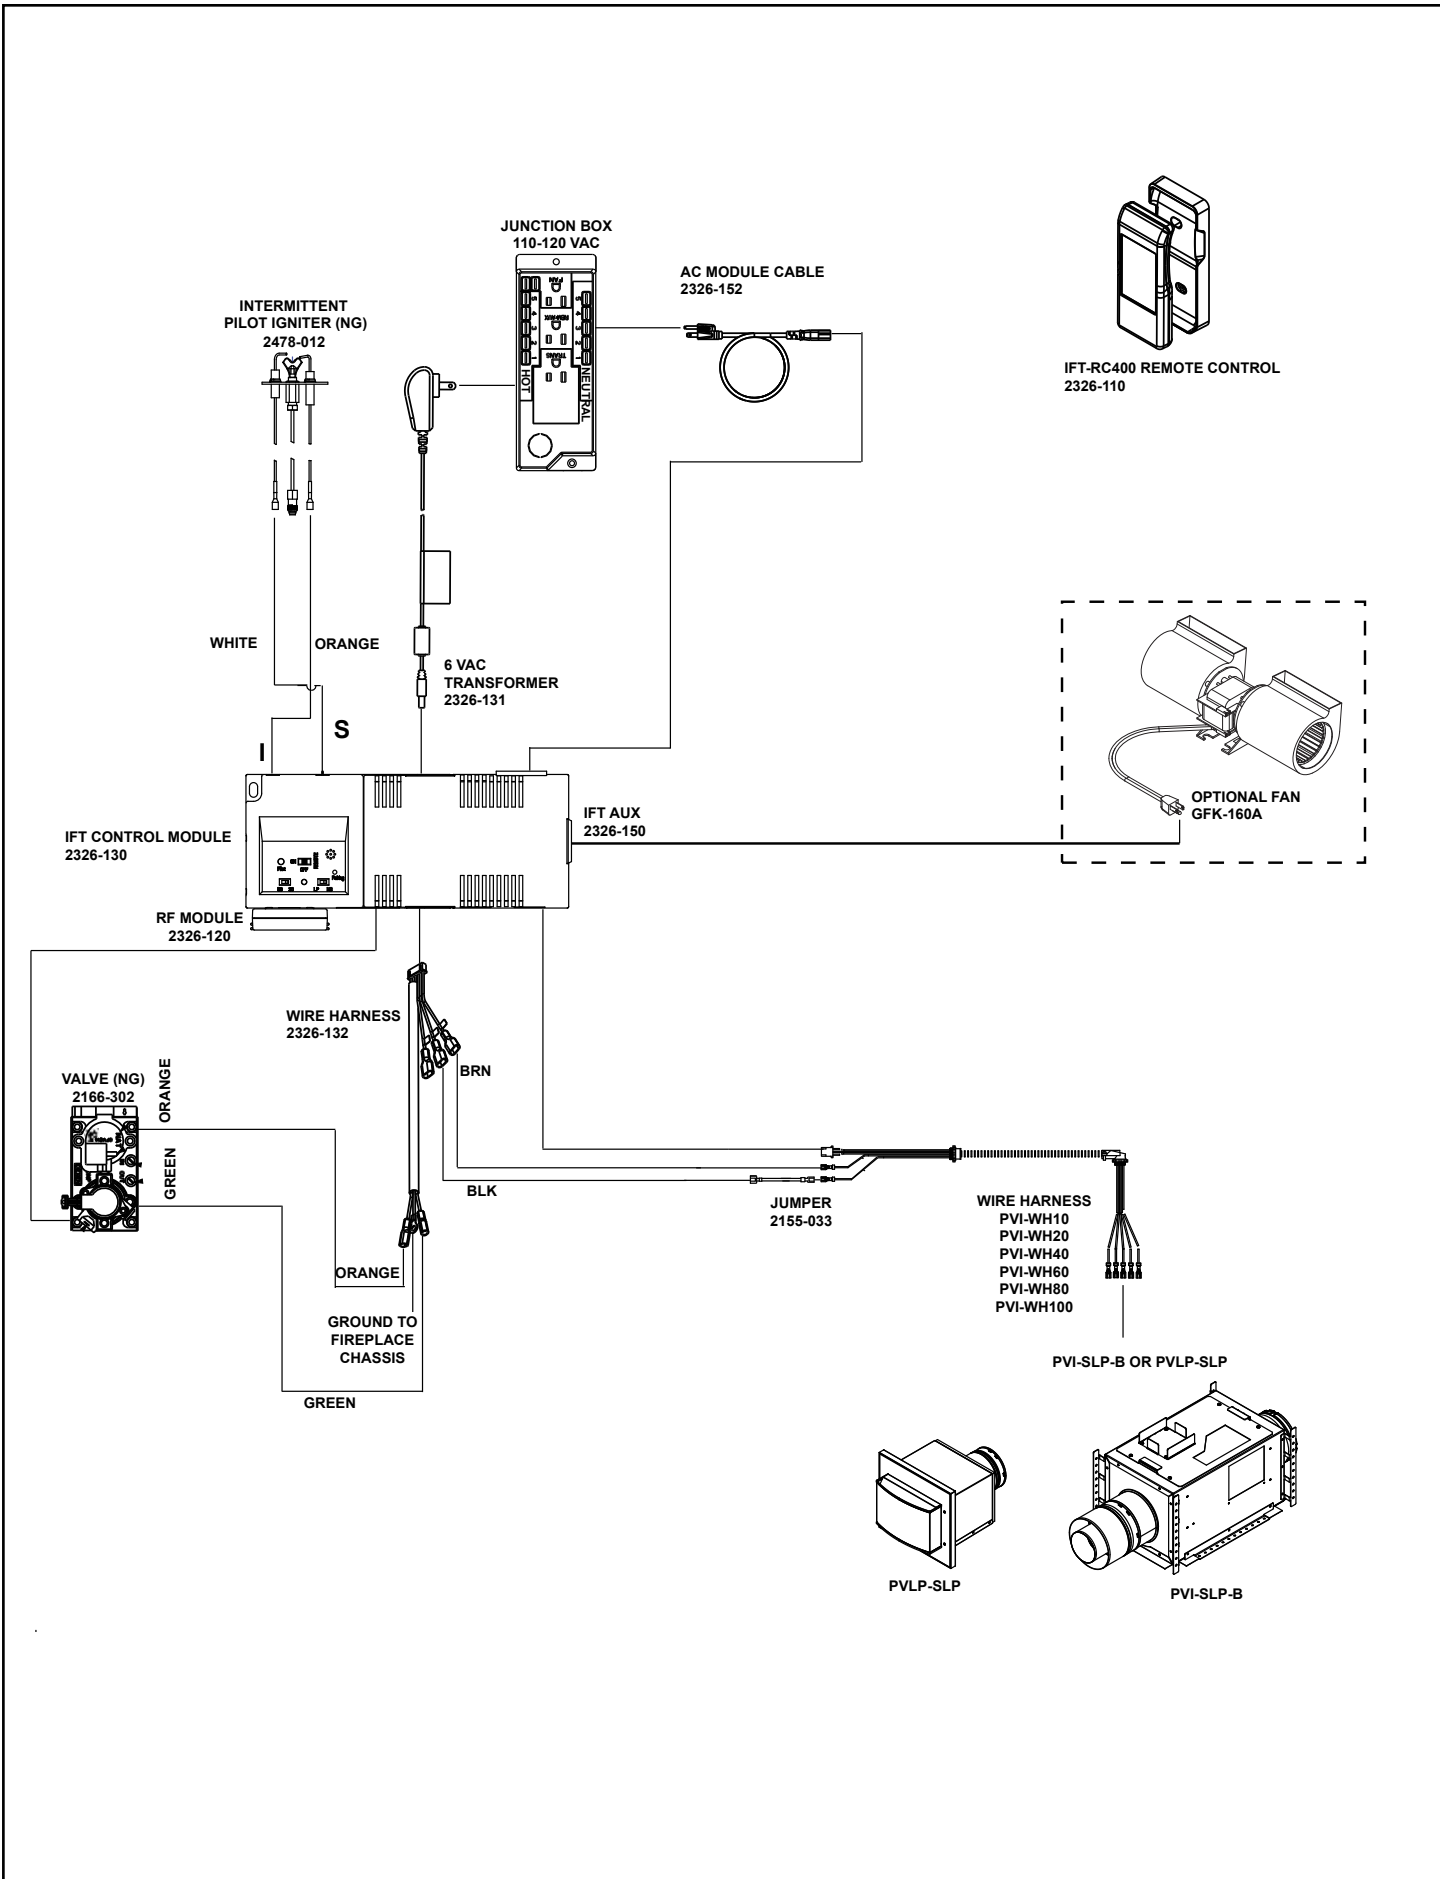

Figure 8.3 IntelliFire Touch Wiring With Optional Power Vent
1. Install and wire the fan in appliance as shown in Figure 8.3.